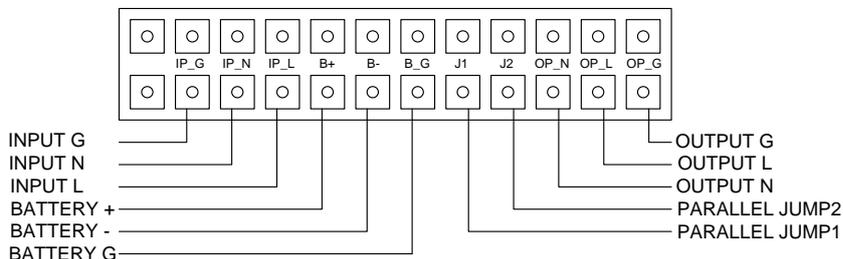

Figure 3: Terminal block wiring diagram
- 4 - Install the protective earth (ground) wire (refer to Figure 3). It is recommended to use green or green/yellow wires.